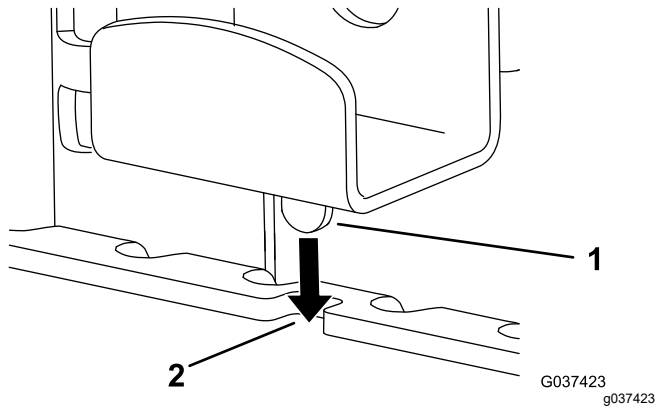

Figure 7
2. Loosen the knob and lower the top bracket, inserting the tab into the notch in the hinge bracket (Figure 7).